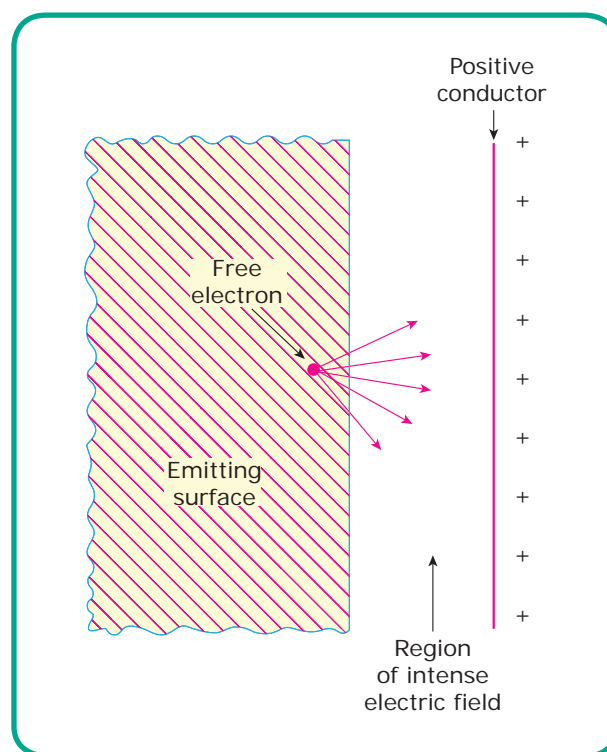

Figure 3.10 Field emission
4. **Field Emission:** In this method, a strong electric field (i.e., high positive voltage) is applied at the metal surface which pulls the electrons out of metal surface because of the attraction of positive field. The stronger the electric field, the greater is the electron emission as shown in Figure 3.10.